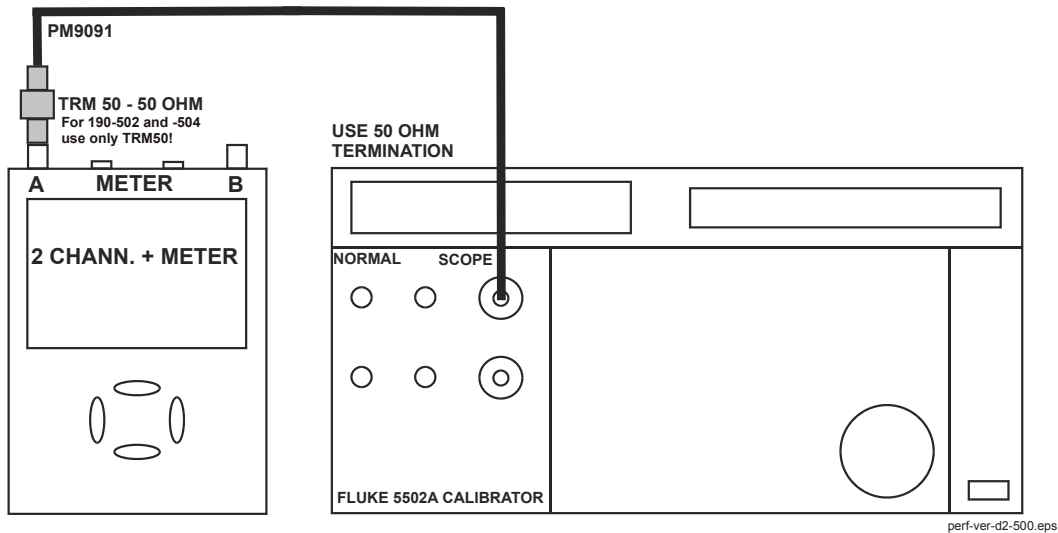

Figure 5-3. 5502A SCOPE Output to Test Tool Input A
6. Connect Ch. A of the Test Tool to the 5502A SCOPE output as shown in Figure 5-3. Use a 50  $\Omega$  termination.
1. Connect Ch. A of the Test Tool to the 5502A as shown in Figure 5-3.